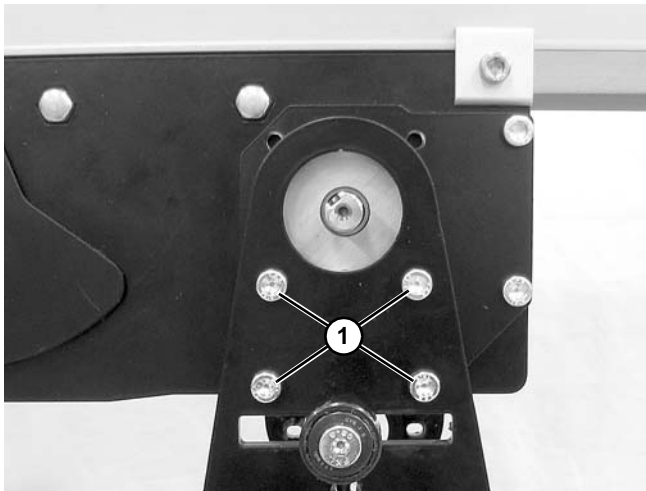

Figure 48
3. Remove four mounting screws (Figure 48, item 1) and remove gearmotor.